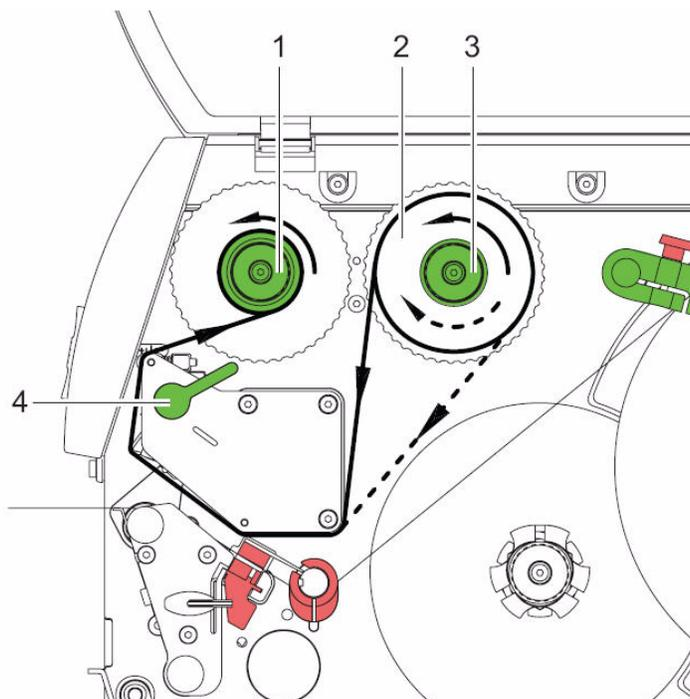

Figure 7. Feed Path of the Transfer Ribbon
2. Turn lever (4) counterclockwise to lift the printhead.
3. Slide transfer ribbon roll (2) onto the ribbon supply hub (3) until it stops and so that the color coating of the ribbon faces downward when being unwound. No rotation direction is specified for the ribbon supply hub (3).
4. Hold transfer ribbon roll (2) firmly and turn knob on ribbon supply hub (3) counterclockwise until the transfer ribbon roll is secured.
5. Slide suitable transfer ribbon core onto the transfer ribbon take-up hub (1) and secure it in the same way.
6. Guide transfer ribbon through the print unit as shown in Figure 7.
7. Secure starting end of transfer ribbon to the transfer ribbon core (1) with adhesive tape. Ensure counterclockwise rotation direction of the transfer ribbon take-up hub here.
8. Turn transfer ribbon take-up hub (1) counterclockwise to smooth out the feed path of the transfer ribbon.
9. Turn lever (4) clockwise to lock the printhead
1. Turn lever (4, Figure 7) counterclockwise to lift the printhead.